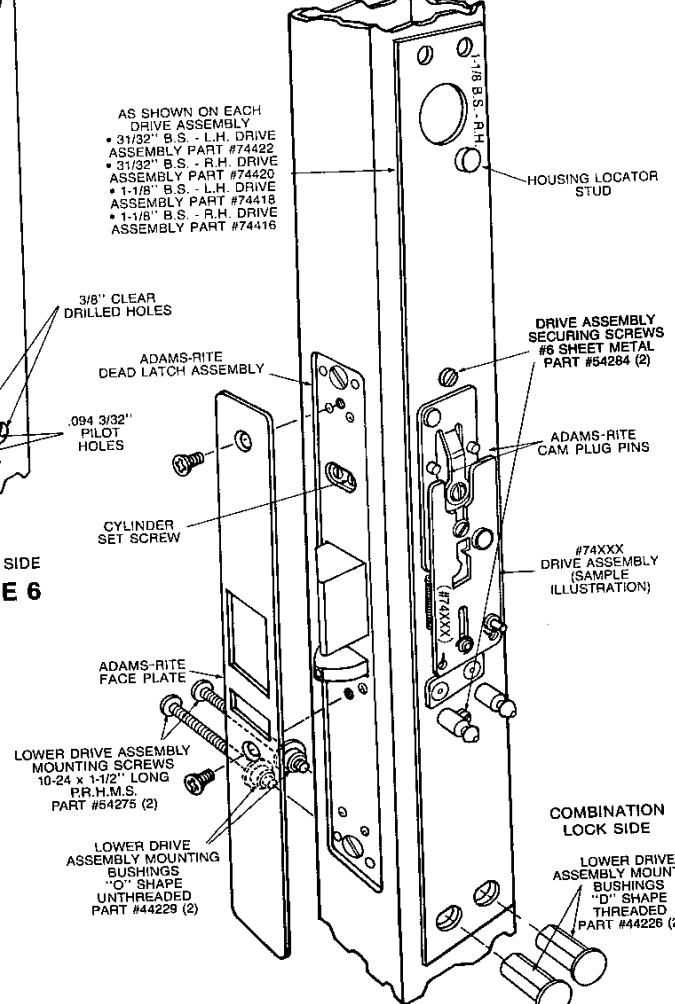

FIGURE 7
### Step 14: (Figures 7 and 4)
\*Locate the drive assembly on lock side of door over the pins on the Adams-Rite cam plug. Secure lower portion of drive assembly using two drive assembly mounting bushings "D" shape threaded (part #44226), two drive assembly mounting bushings "O" shape unthreaded (part #44229) and two drive assembly mounting screws (part #10-24 thd. x 1-3/4" long, P.R.H.M.S. (See Fig. 7 for location of screws and bushings.) After securing lower drive assembly mounting bushings to stile, apply hand pressure to upper portion of drive assembly flush to stile while drilling two (1/8") holes to accept drive assembly securing screws (#6 sheet metal) (part #54284) (2). (See Fig. 7), drive assembly must always be parallel to stile. Note: Drilling of holes is not necessary for wood door installations. Tighten the cylinder set screw. (See Step 4) Make sure the drive moves freely up and down when holding Adams-Rite latch depressed. Drive should return freely to original position without the help of the Adams-Rite latch spring.